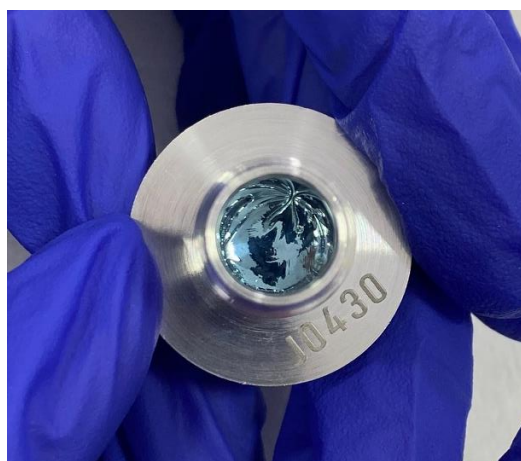

Fig. 7. The entrance hole of the cartridge cylinder with centrifuged paste.
Step 21. Place the centrifuged cartridge in the holder located on the cartridge board, in such a way that the cartridge cylinder's input hole faces up and the output hole faces down (Fig.7).